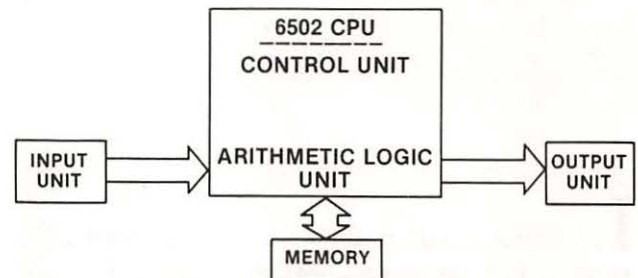

Fig. 3-3. The control unit and arithmetic logic unit are included as part of the 6502 central processing unit (CPU).
*unit*, or CPU. As shown in Fig. 3-3, the CPU on your Apple II Plus motherboard is a 6502 microprocessor.